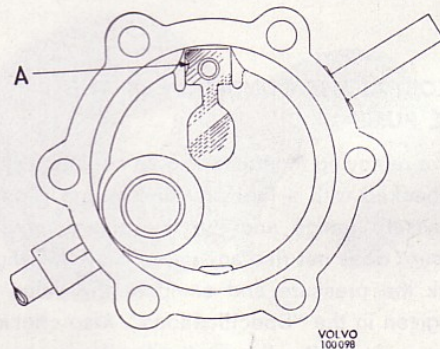

Fig. 103. Spring location
1. Fit the leaf spring as shown in Fig. 103 and the stop arm. Tighten the screw but no harder than